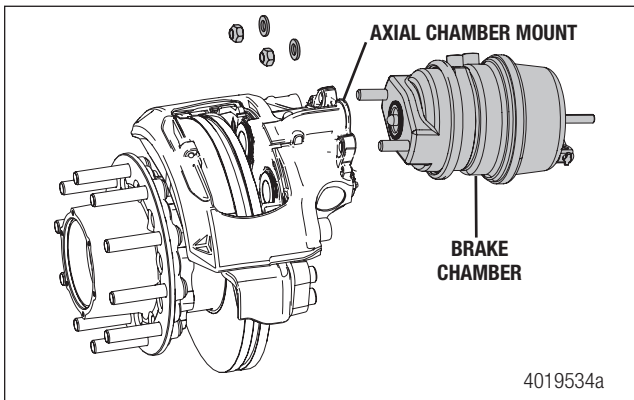
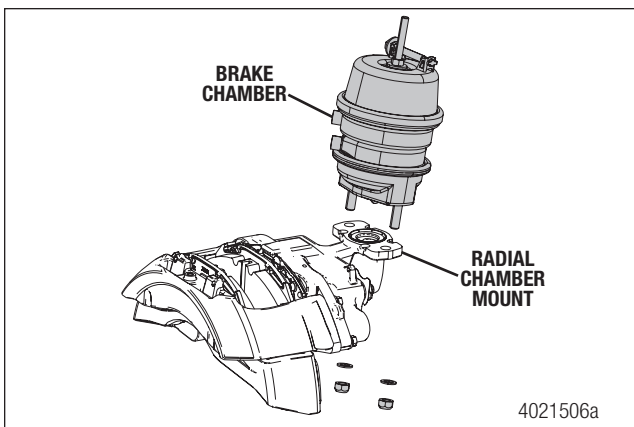

Figure 8
Figure 9
- Remove the two brake chamber mounting nuts and washers and set them aside for reuse. Remove the brake chamber from the caliper. Figure 8 and Figure 9.